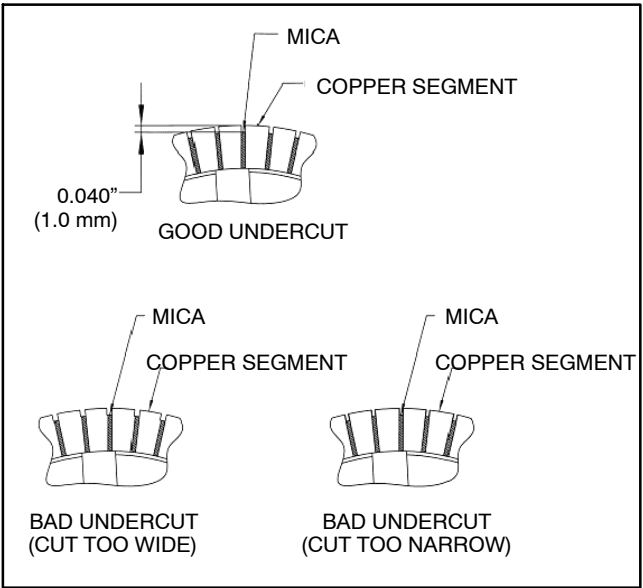

Figure 60
- 4. After the commutator is turned, undercut the mica to a uniform depth of 0.040" (1.0 mm). Be careful to only cut the mica and not increase the slot width (Fig. 60).